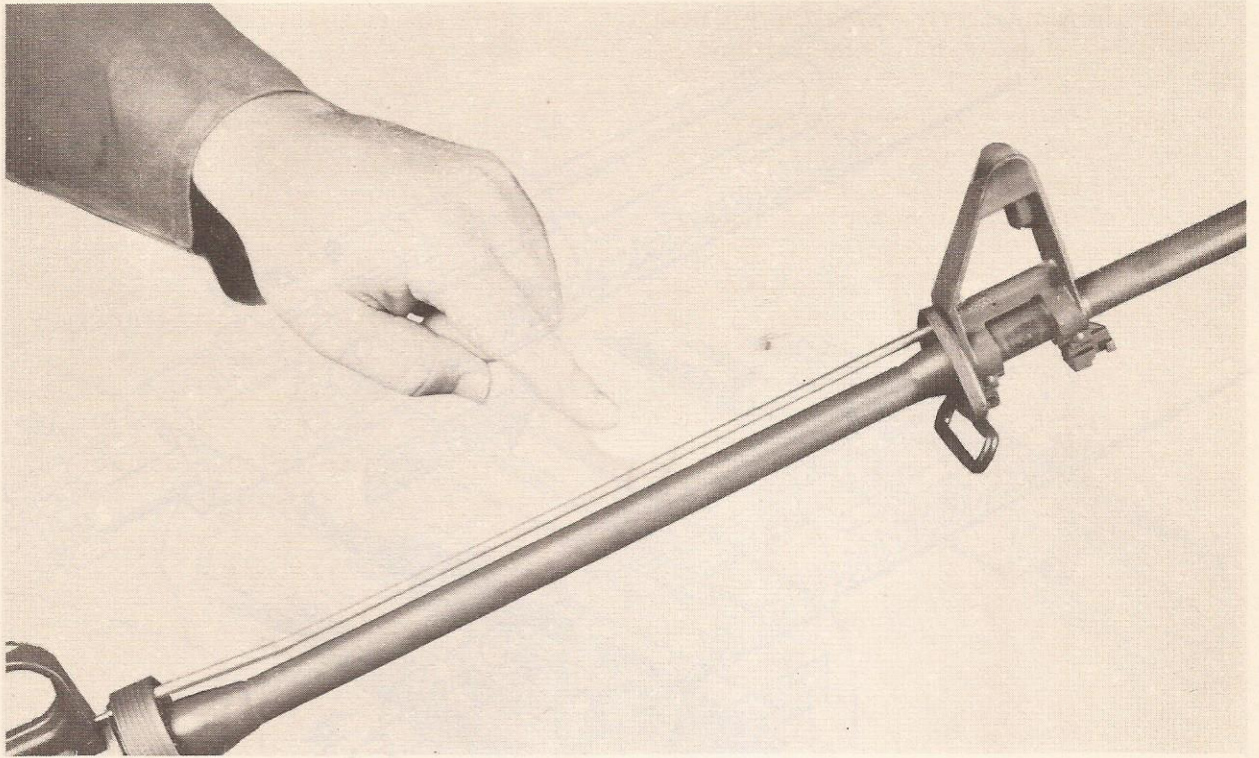

Figure 29. Gas tube.
- (b) *Action of the gas.* When the primer ignites the powder, the projectile is forced through the barrel. At the same time the gas moves through the barrel until, passing the gas port located on the upper surface of the barrel (under the front sight), a small portion of the gas passes through the gas port and into the gas tube (fig. 29). The gas tube directs the gas into the cylinder between the bolt and bolt carrier, causing the bolt carrier to move rearward.